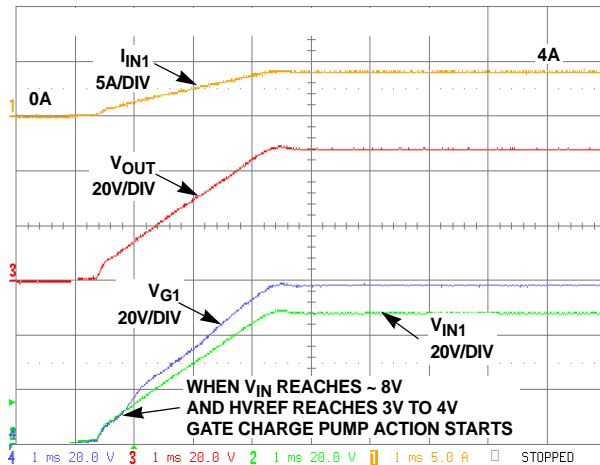

FIGURE 19. FIRST FEED  $V_{IN1}$  START-UP (48V CASE)
**Option 2:** Using a custom designed DC/DC converter Power Board which consists of two DC/DC modules connected in current sharing configuration, each DC/DC module output can be turned off slowly using the ON/OFF pin or can be shorted using on-board Power MOSFET (Refer to Figure 19). In this case also, similar considerations for  $C_{OUT}$  and type of load apply as in option 1 above.
The ISL6144EVAL1 is hooked up to two input power supplies using test setup shown in Figure 18 or Figure 19. Note that the ISL6144EVAL1 is populated with one FDB3632 MOSFET per feed (Nominal value of the MOSFET's  $r_{DS(ON)}$  is approximately  $8m\Omega$  at  $V_{GS} = 10V$ ).